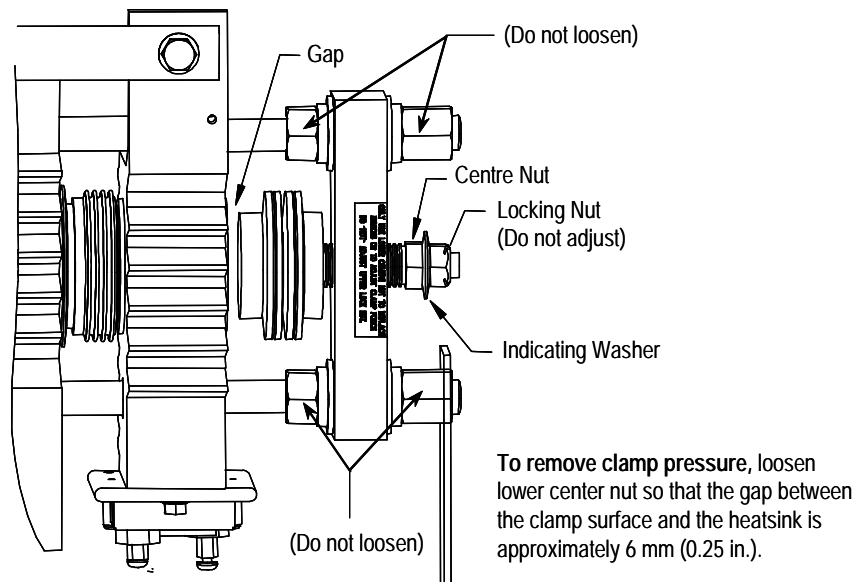

Figure 9.6 – Heatsink Clamp
Important: DO NOT loosen any of the nuts on the fiber rods on either side of the clamp bars. They must remain as they are to maintain squareness. See Figures 9.6, 9.9 and 9.15.
2. Loosen the clamp by rotating the centre nut below the indicator washer at the top end of the clamp. Refer to Figures 9.6, 9.9 and 9.15.